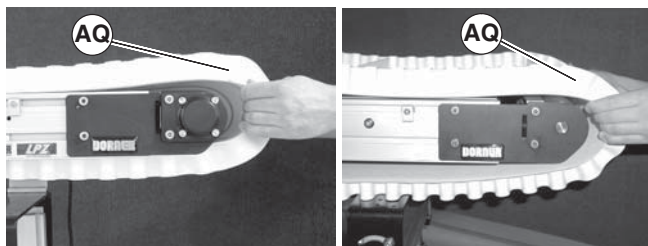

Figure 27
- Remove belt (Figure 27, item AQ) from conveyor.